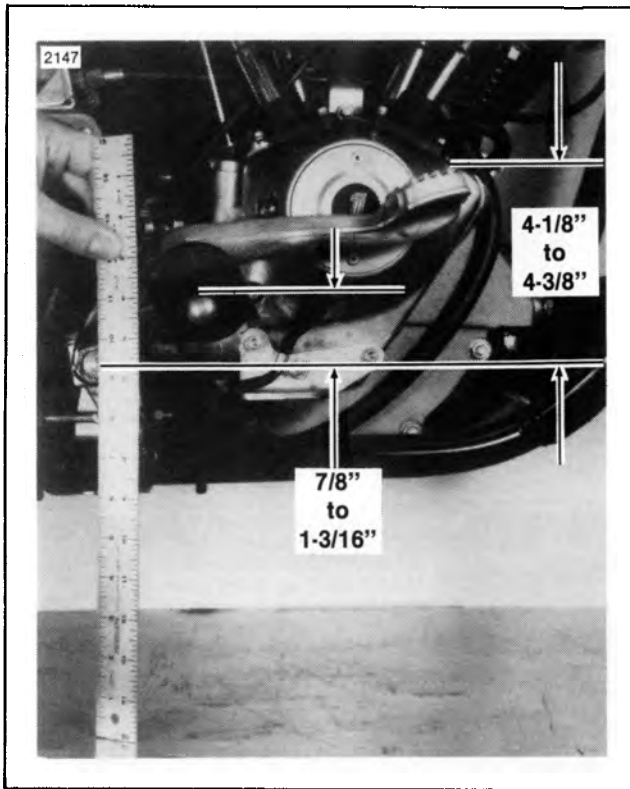
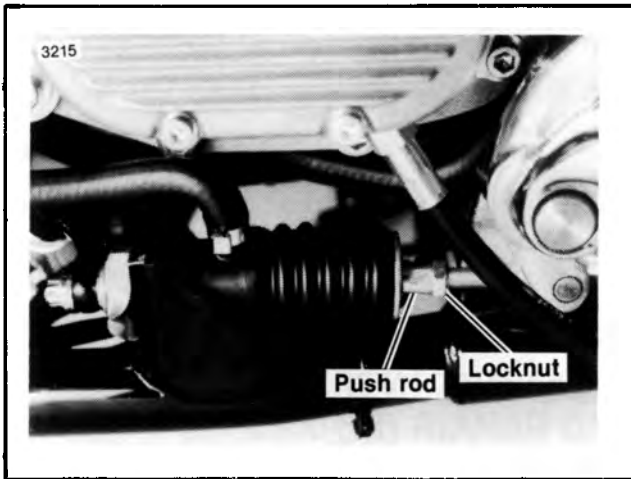

Figure 2-44. Measuring Footrest and Brake Pedal Height — FXR Models (Except FXRD)
Figure 2-46. Rear Brake Pedal Linkage
See Figure 2-44. The top of the rear brake pedal should be 4-1/8 in. to 4-3/8 in. above the centerline of the pivot shaft as shown with vehicle upright. Measure from the floor to the center of the pivot shaft then measure from the floor to the top of the brake pedal. The difference should be 4-1/8 in. to 4-3/8 in. Adjust as follows:
1. See Figure 2-44. The top of the rear brake pedal should be 4-1/8 in. to 4-3/8 in. above the centerline of the pivot shaft as shown with vehicle upright. Measure from the floor to the center of the pivot shaft then measure from the floor to the top of the brake pedal. The difference should be 4-1/8 in. to 4-3/8 in. See Figure 2-46. Adjust by loosening jam nut and turning the push rod using the wrench flats on push rod.